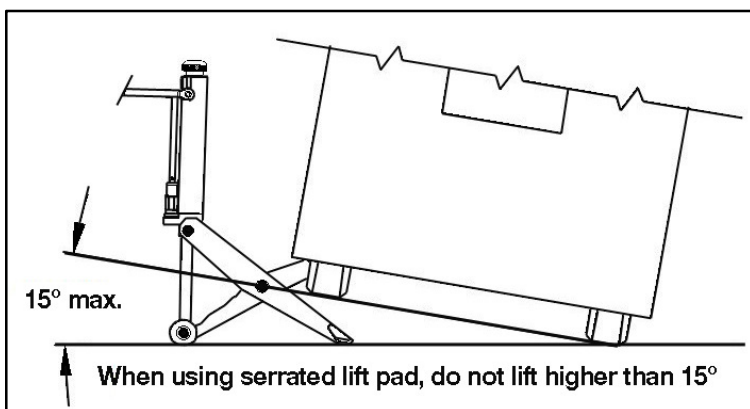

Fig. 4: Using serrated lift pad
- ⚠ Make sure at least two wheels of the forklift remain in contact with the floor at all times. Never raise a 3-wheeled forklift from the 2-wheeled end or from the side. Never use the jack to raise all four wheels of the forklift from the floor. Never raise the forklift higher than 15° if using the serrated lift pad or 1/4 its tread width (See Fig. 4 and 5).
- The jack's front footpad and rear wheels must ALWAYS remain in direct contact with the floor (see Fig. 4).
- ⚠ Never raise the forklift higher than 1/4 its tread width when using the serrated lift pad (see Fig. 4).